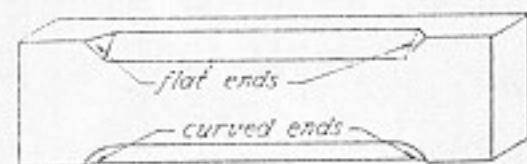

Fig. 133. Stopped chamfers.
4. The ends of a stopped chamfer may be either flat or curved (Fig. 133). In either case, chiseling is begun on the ends, but it must not be done quite down to the lines. If the ends are flat, the chisel is held with the bevel up. If they are curved, the chisel is held with the bevel down, as shown in Figure 134.